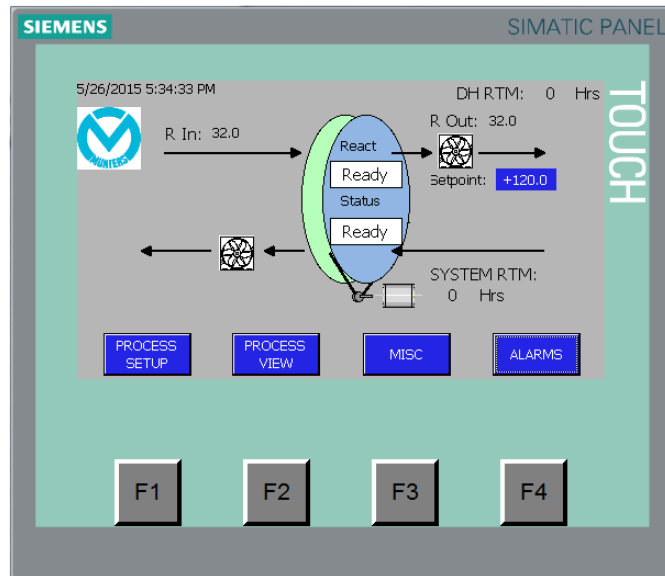

Figure 3-2
2. Check to see that the center of the Auto/Off/Manual switch is lighted. This means the unit has power. The operator interface will show that the machine is ready to run. See Figure 3-2.